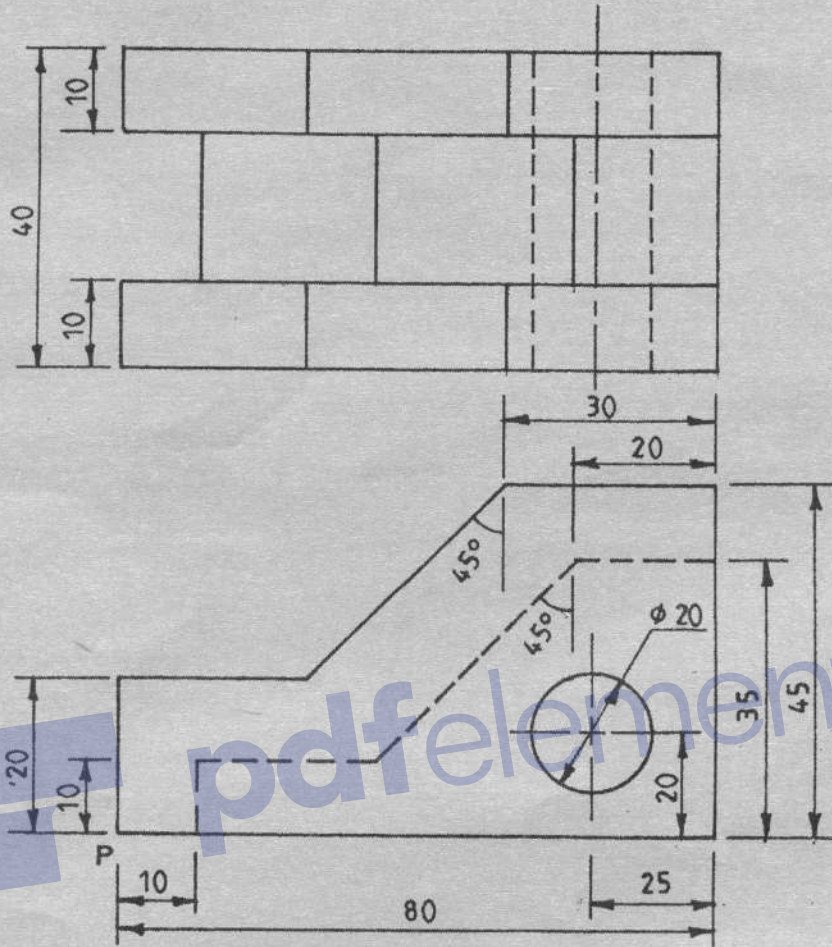

Fig. 4
- (b) **Figure 4** shows two views of a solid drawn in 3rd angle projection. Draw an isometric view of the object taking corner P as the lowest point. (16 marks)